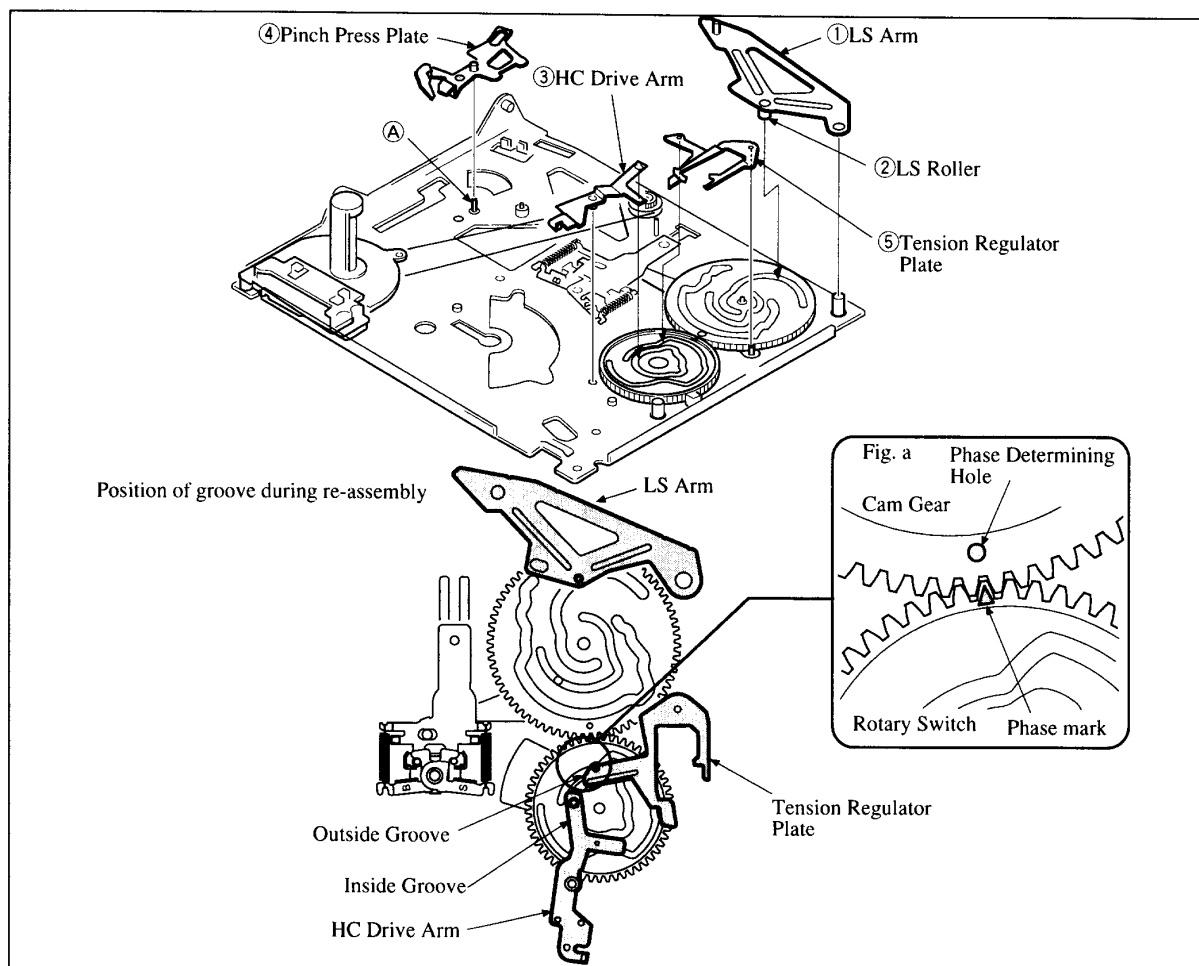

Fig. 19
- 1) Before attaching the Gear A (6), coat the Retainer Shaft (E) with grease SG-055G (Ref. No. J-13).
- 3) The HC Drive Arm is easy to drop. Confirm that it is attached referring to Fig. 19.
3-13. LS Arm, HC Drive Arm, Pinch Press Plate, Tension Regulator Plate (Refer to Fig. 19)